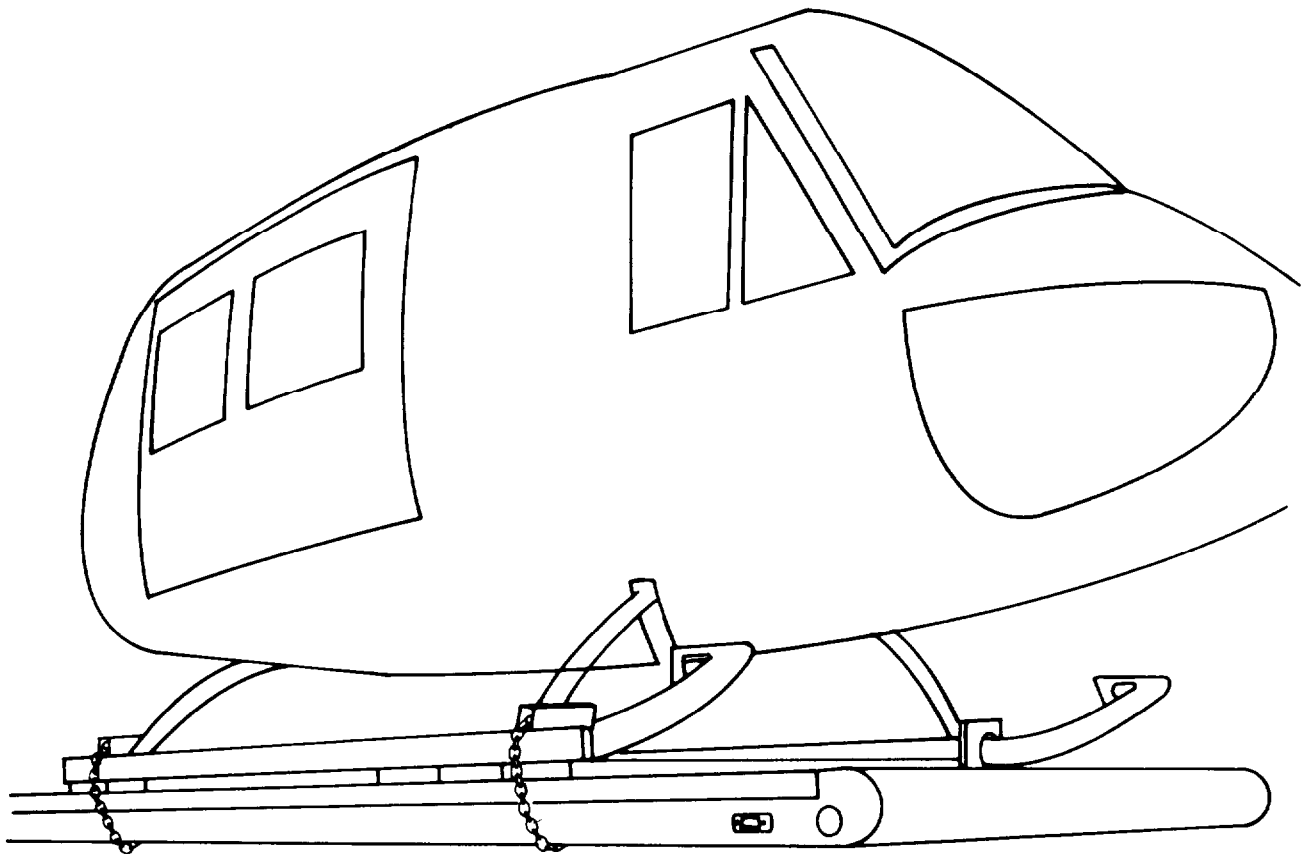

Figure 4-1. Shipment of UH-1 Helicopters by Truck.
4-6. LOADING. (figure 4-1).
a. Secure landing gear skid tubes to carrier bed with chains mounted over shipping supports (figure 4-1).